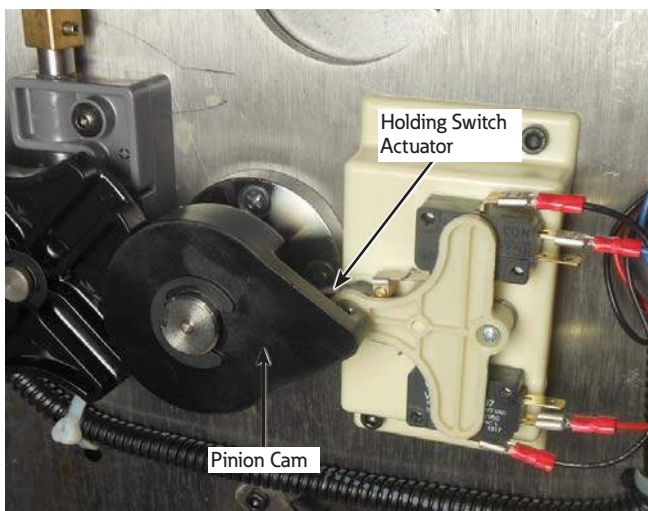

Figure 27. Neutral position for position indicator pinion cam and holding switch
C. The pinion cam is pointing to the right over the holding switch actuator. See Figure 27.